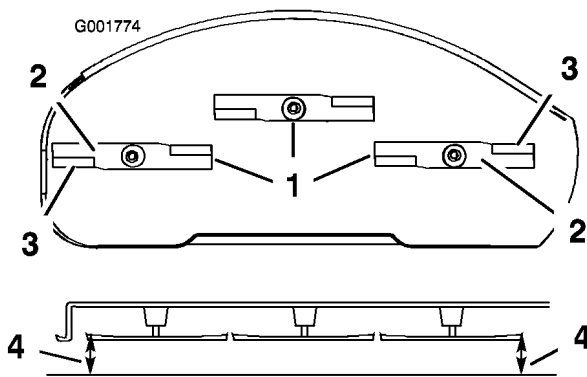

Figure 41
- Carefully rotate the blade(s) side to side (Figure 41). Measure between the outside cutting edges and the flat surface (Figure 41). If both measurements are not within 3/16 inch (5 mm), an adjustment is required; continue with this procedure.